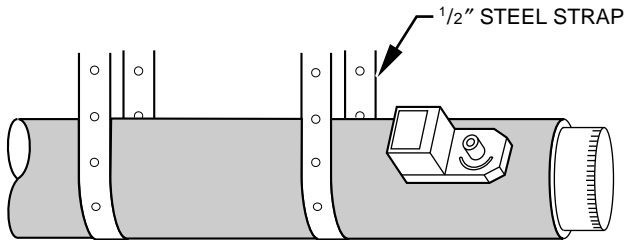

Fig. 2—Insulated Round Metal Duct Work A95130
2. Slip end of zone damper over end of duct work. Use self-tapping sheet metal screw to secure. (See Fig. 2.)